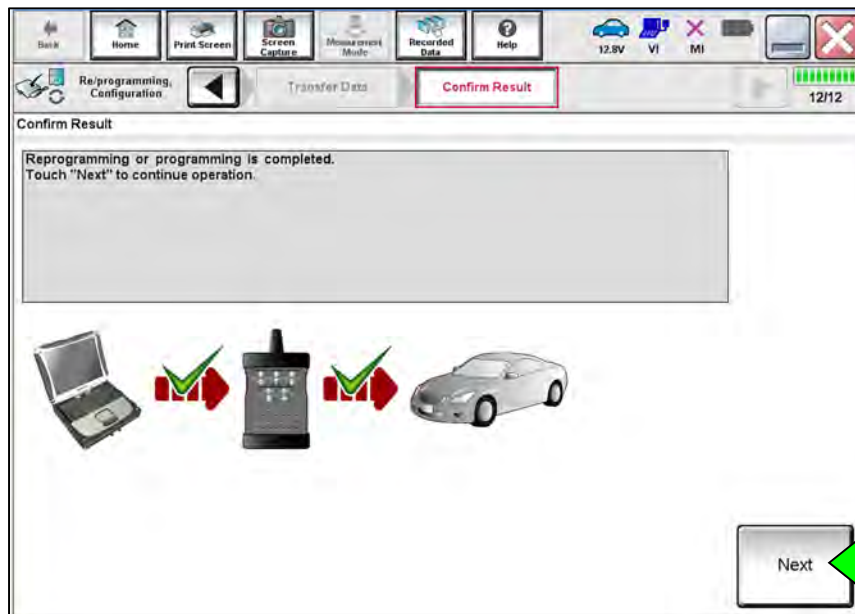

Figure 21
- When the screen in Figure 21 displays, the reprogramming is complete.
- If the screen in Figure 21 does not display (indicating that reprogramming did not complete), refer to **Sonar Control Unit Recovery** on the next page.